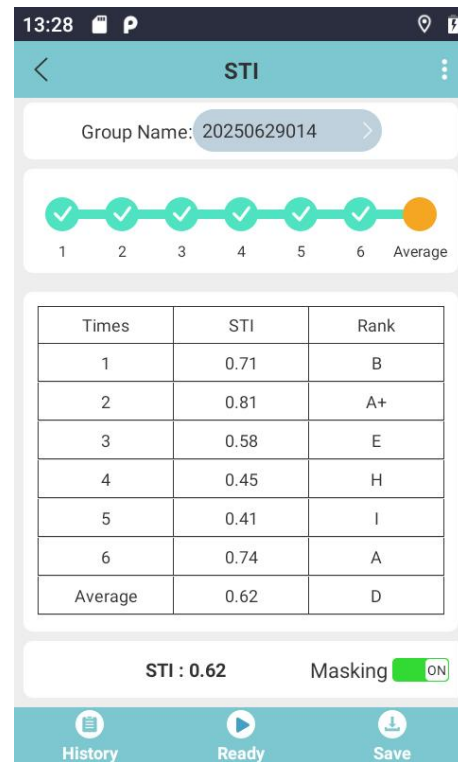

Figure 6.69
- 5) After each measurement, the system automatically proceeds to the next measurement screen in Ready state. After six runs, it stops and remains on the final page (Figure 6.69).
- 6) Tap “Average” in the step area to view the STI values, rank, and average, as shown in Figure 6.69. You may also tap individual step numbers to review their results.